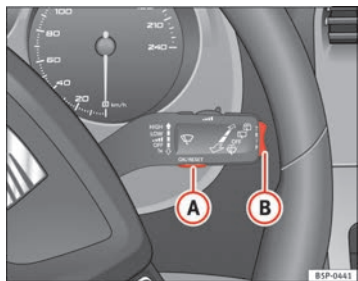
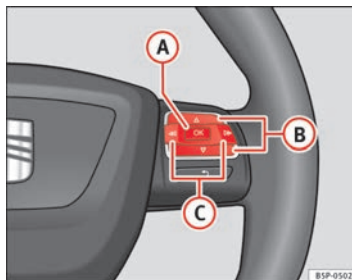

Fig. 45 Windscreen wiper lever: button A to confirm the menu selection and rocker switch B to change the menu
Fig. 46 Steering wheel controls: button A to confirm the menu selection and switch B to change the menu
⇒ page 68, fig. 46 until the menu is displayed. Now you are in this menu.
- To change from one memory to another, briefly press button **A** ⇒ page 68, fig. 45 ⇒ page 68 on the windscreen wiper lever or the **OK** button on the multifunction lever ⇒ page 68, fig. 46 ⇒ page 68 while the ignition is switched on. ▶
The following data can be viewed on the multifunction display using the rocker switch **(B)** ⇒ page 68, fig. 45 ⇒ page 68 on the windscreen wiper lever or by pressing button **(Δ)** or **(▽)** ⇒ page 68, fig. 46 on the multifunction steering wheel*.